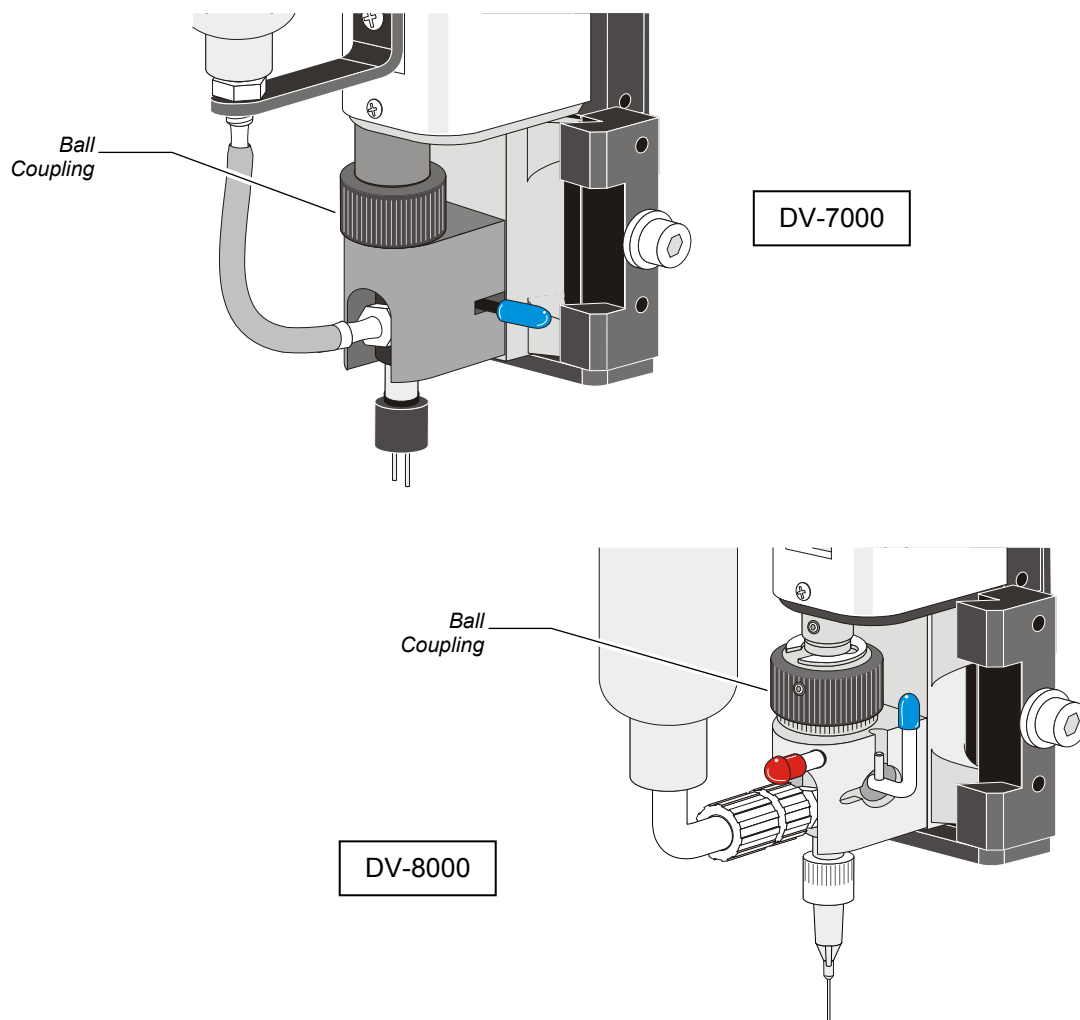

Figure 3-19 Ball Coupling Locations
5. Toggle the output ON and check the direction of the ball coupling (Figure 3-19). It should be turning in a clockwise direction if viewed from above.